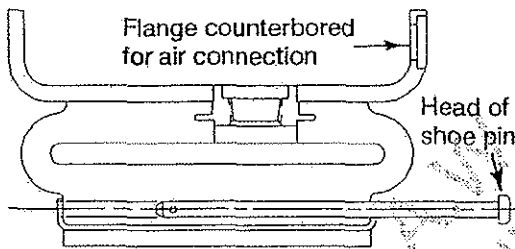

Fig. 12
- 4.5.3 Place the new friction shoe assemblies in position. Insert the shoe pins with the heads located on the mounting flange and/or air connection side of the element, as in Figure 12.